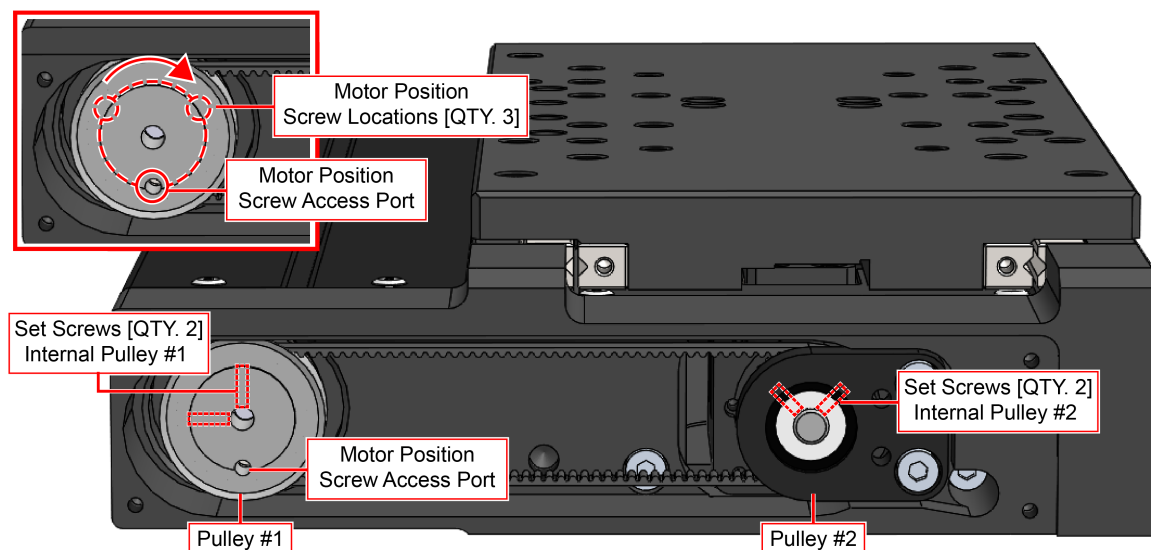

Figure 4-4: Foldback Motor Part Callouts
3. Check that the pulleys are tight on their respective shafts (Figure 4-4).
4. Check the tension in the belt to determine if adjustment is necessary (Figure 4-4).
5. If adjustment is required, rotate the pulley connected to the motor (pulley #1 in Figure 4-4) in order to access the three screws holding the position of the motor. Loosen but do not remove these three screws.